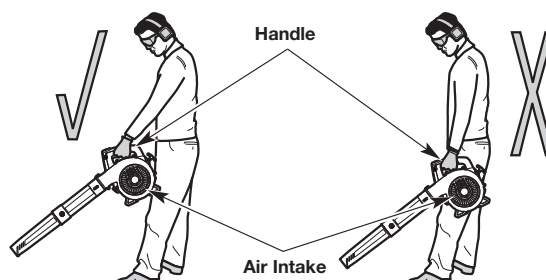

Fig. 8
- Stand in the operating position (Fig. 8). Stand up straight. Do not bend over.
- Hold the unit in front of, and away from, your body (Fig. 8).
**! WARNING:** To prevent serious personal injury or damage to the unit, **DO NOT** hold the unit at your side (Fig. 8). The engine may be extremely hot. **DO NOT** block the air intake.